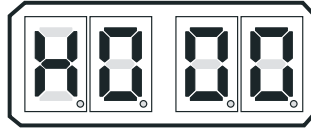

Figure 10-2: Display Troubleshooting Function
- Depress the Up or Down Push Button repeatedly until **H000** is displayed like Figure 10-2: Display Troubleshooting Function..